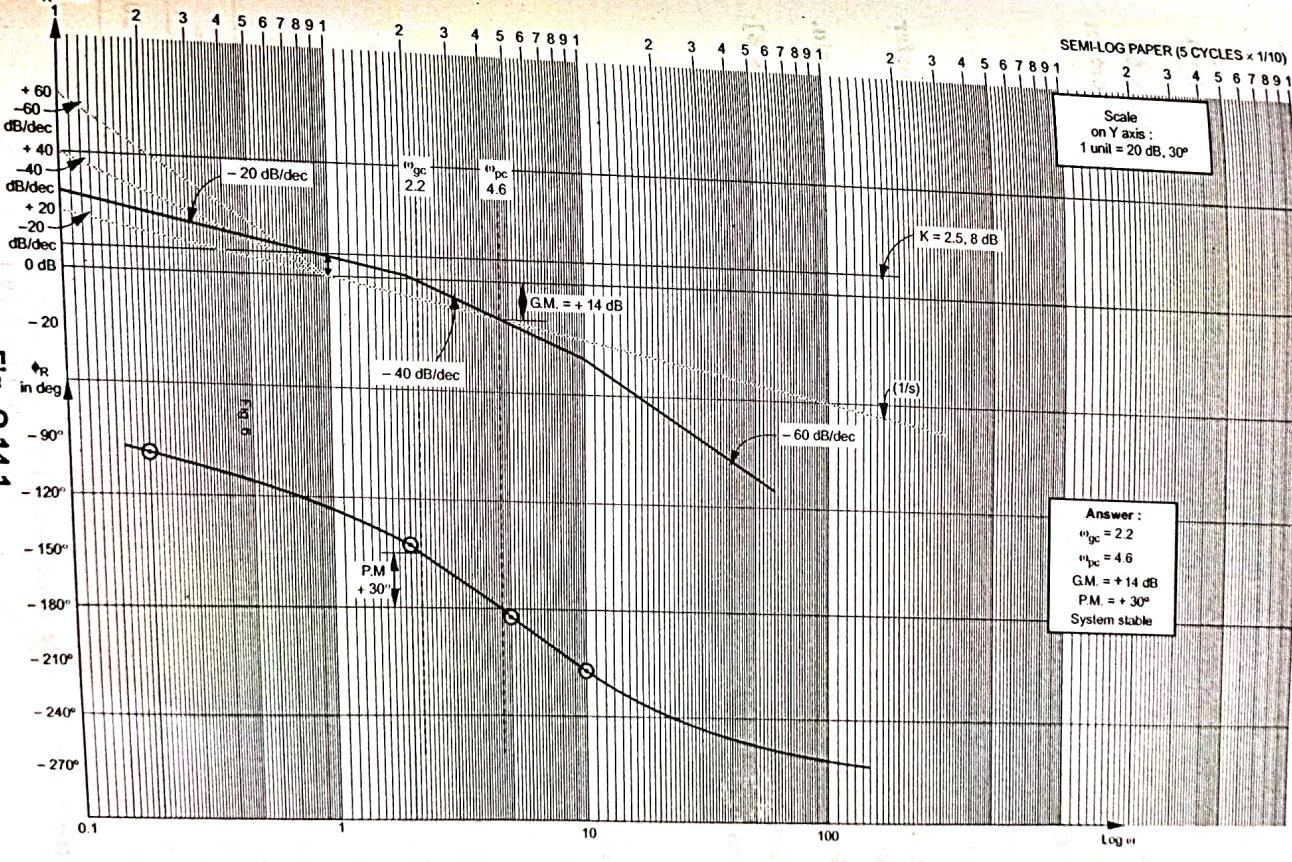

Fig. Q.14.1
**Step 4 : The Bode plot and the answers are given in the Fig. Q.14.1.**
(See Fig. Q.14.1 on next page)